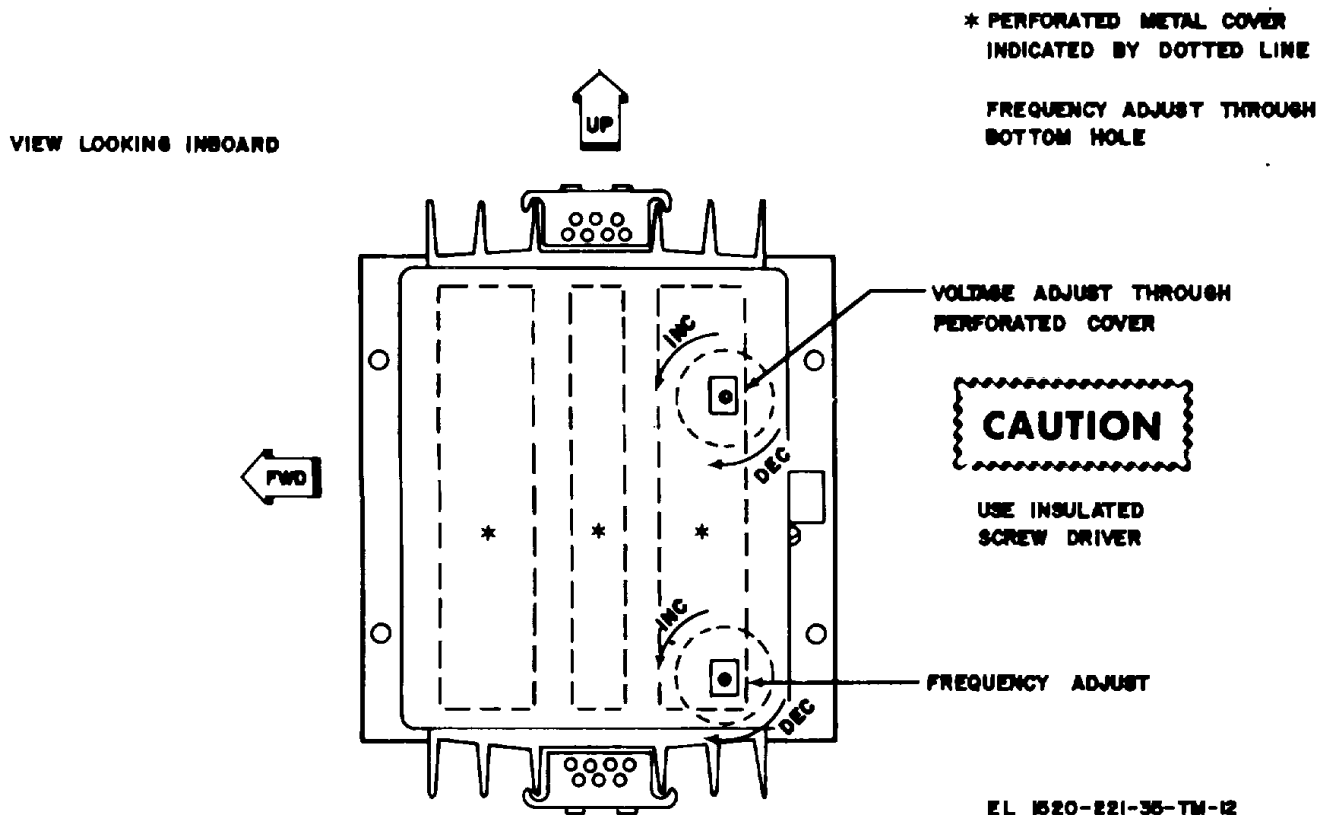

Figure 3-2. Adjustment of standby inverter (PP-6508B/U)
g. Voltage adjustment screw is located at upper right corner of inverter. Adjustment is accomplished by inserting a small insulated screw driver through perforated cover of inverter, engaging slots in adjustment screw. Turn counter clockwise to increase voltage or clockwise to decrease voltage. See figure 3-2 for directional references.